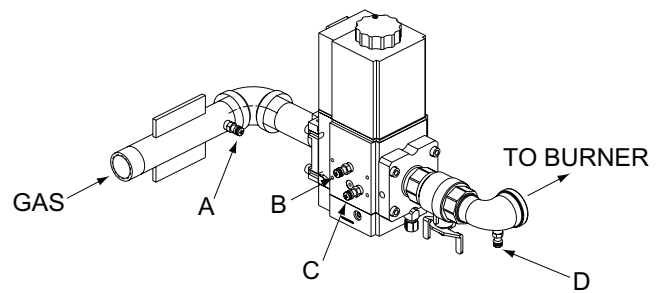

Fig. 47: Gas Pressure Measurement Locations
2. Attach (1) 12" scale manometer to an upstream bleedle valve on the gas supply pipe to the heater (Measure point "A" in Fig. 47).
3. Attach (1) 24" scale manometer to the manifold pressure tap located on the elbow downstream of the valve (Measure point "D" in Fig. 47).
4. Attach (1) 12" scale manometer near the fan-proving switch. Pull black cap from air pressure switch tee and connect the manometer. NOTE: Retain caps for reinstallation later.
1. Check manifold gas pressure at the gas valve outlet pressure tap (connection "D" in Fig. 47). This pressure should read per the values in Table X for natural and propane gas.